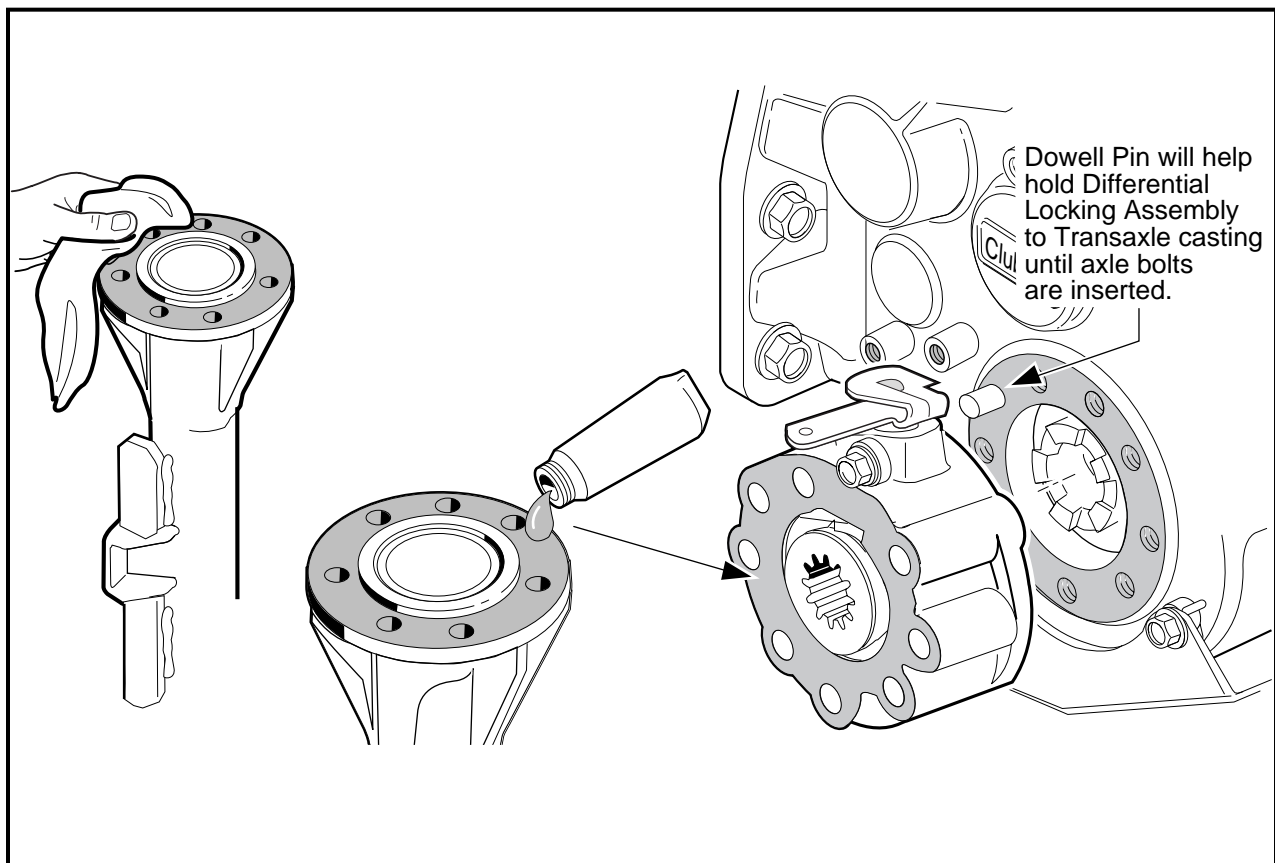
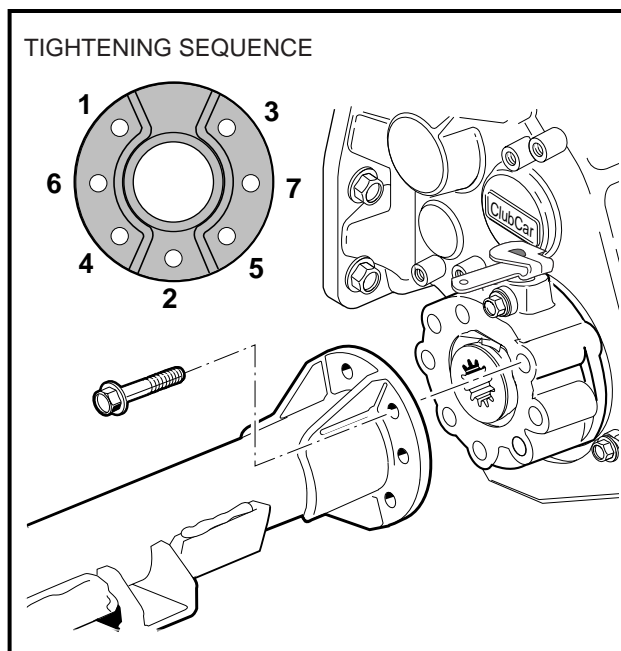

Figure 16-90 Axle Tube Surface
Figure 16-91 Install Axle Tubes
- 11.2. Ensure that the alignment pin is installed to the transaxle case (**Figure 16-90, Page 16-37**).
- 11.3. Apply a continuous bead of Three Bond No. 1215 (CCI 101928701) around the opening on the mating surface of the differential lock housing (transaxle side) (**Figure 16-90, Page 16-37**).
- 11.5. Using the alignment pin as a guide, position the differential lock housing onto the driver side of the transaxle case (**Figure 16-90, Page 16-37**).
- 12.2. Apply a continuous bead of Three Bond No. 1215 (CCI 101928701) around the opening on the mating surface of the left (driver) side axle tube as shown (**Figure 16-90, Page 16-37**). Then position the axle tube on the left side of the transaxle case to the differential lock housing as shown and install seven mounting bolts (92) (**Figure 16-4, Page 16-4**) finger tight. In the sequence shown, tighten the bolts to 36 ft-lb (48.8 N·m) (**Figure 16-91, Page 16-38**).